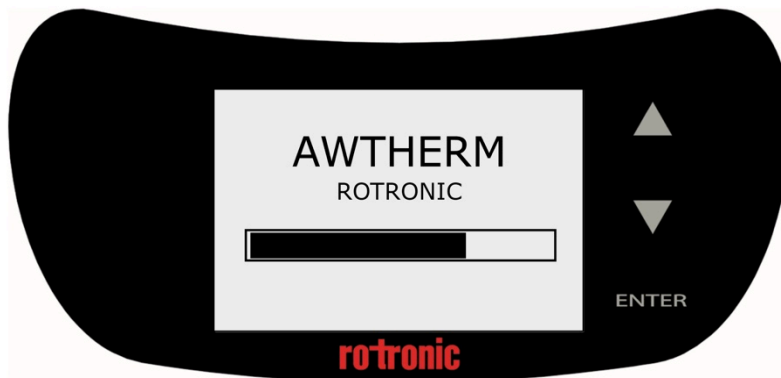

Figure 3-1 Boot screen
4. The loading screen will display (Figure 3-1)